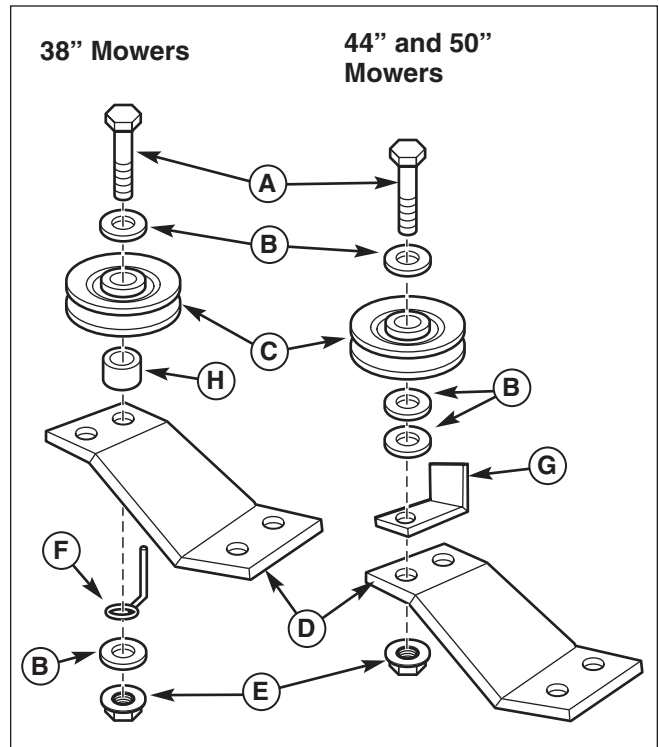

Figure 8. Idler Assembly Stack-Up
2. Check that the idler assembly stack-up is correct for your application. See Figure 8. If not follow the descriptions to make the corrections.